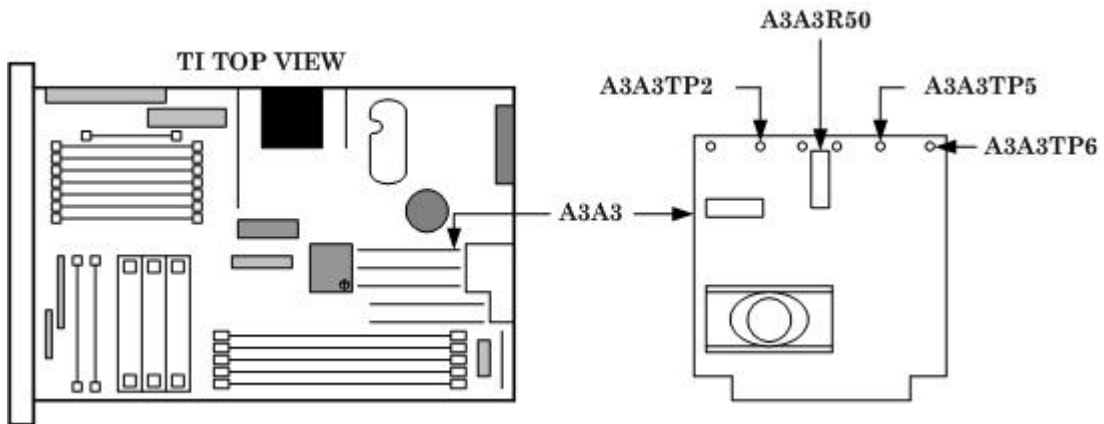

Figure 17. A3A3 card.
(2) Connect digital multimeter to A3A3TP5 (fig. 17) and chassis. If digital multimeter does not indicate between +19.998 V dc and +20.002 V dc, perform **b** (2) below.
(2) Adjust A3A3R50 (fig. 17) for an indication of 20.000 V dc on digital multimeter. No further adjustments can be made (R).